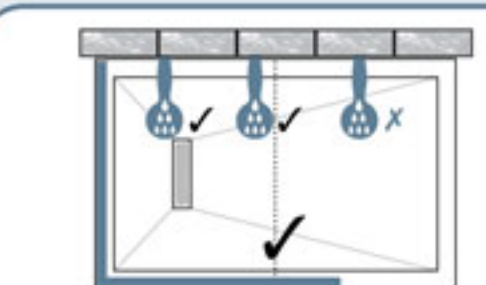

Fig 2 - Walk In - Front & Side Panel
- If fitting a side screen or the tray is adjacent to a wall, ensure that front screen is at least approximately 2/3 the length of tray - See Fig 2 or 6